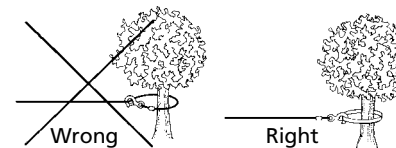

Figure 4
9. NEVER HOOK THE WIRE ROPE BACK ONTO ITSELF because you could damage the wire rope. Use a nylon sling (Figure 4).